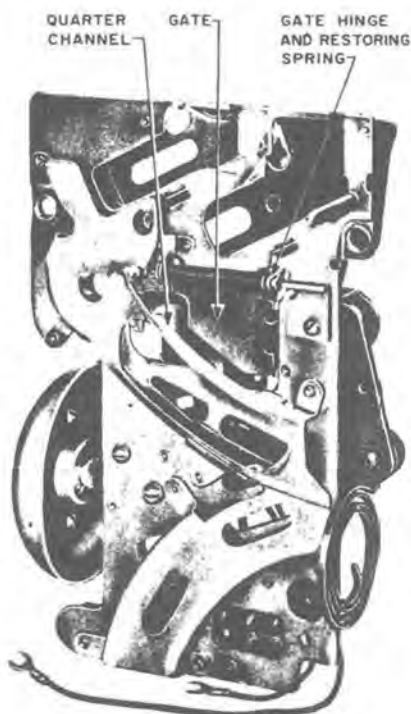

Fig. 26—Gong Signal and Chute Assembly, Rear View
5.14 A hinged gate is provided in the rear wall of the nickel channel opposite the holding and locking latches (Fig. 26). Pennies which may reach the holding latch will be ejected through an opening in the gate. A single nickel deposited and held by the holding latch will be released by the gate and fall into the return chute when the handset or receiver is hung up. The gate is controlled by an operating arm on the switchhook. The gate is open when switchhook is down and closed with switchhook is up. Nickles deposited when switchhook is down will pass through the open gate and into return chute. The gate is also opened by the coin-release pushbutton mechanism.